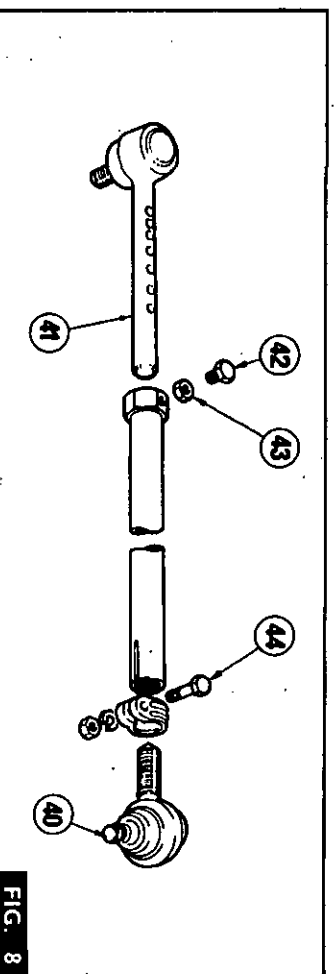

FIG. 8
3. Fig. 8. If necessary slacken the bolt (42) and locknut (43) securing the front ball end (41) and withdraw the ball end.
**NOTE - DO NOT SLACKEN THE PINCH BOLT (44) OR UNSCREW THE BALL END (40) UNLESS THE BALL END IS TO BE REPLACED.**